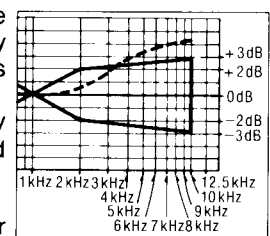
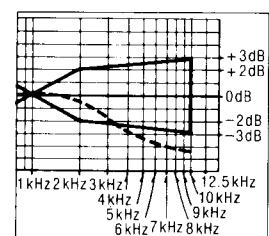
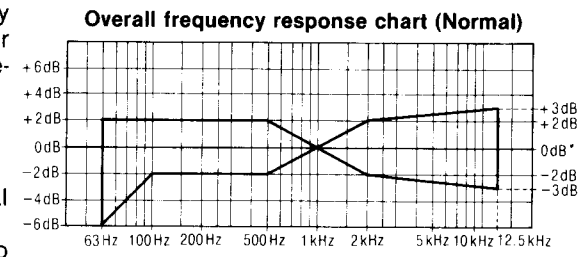

Fig. 12
Fig. 13
Fig. 10
When the curve overall specified response chart shown in fig. 12
6. Playback the signals recorded in step 6, and check if the frequency response curve is within the limits shown in the overall frequency response chart for normal tapes (fig. 10). (If the curve is within the charted specifications, proceed to steps 7, 8 and 9.)
When the curve exceeds the overall specified frequency response chart (fig. 10) as shown in fig. 12.
- 2) Repeat steps 5 and 6 for confirmation (Proceed to steps 7, 8 and 9 if the curve is now within the charted specifications as shown fig. 10.)
- 3) If the curve still exceeds the specifications (fig. 10), increase bias current further and repeat steps 5 and 6.
When the curve falls below the overall specified frequency response chart (fig. 10) as shown in fig. 13.
- 3) If the curve still falls below the charted specifications (fig. 10), reduce bias current further and repeat steps 5 and 6.